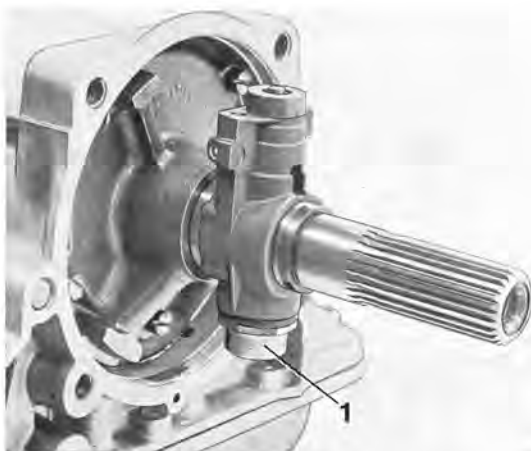

Fig. 4-95. Removing governor
33. Unscrew the bolt and pull the governor off the shaft, see Fig. 4-95.